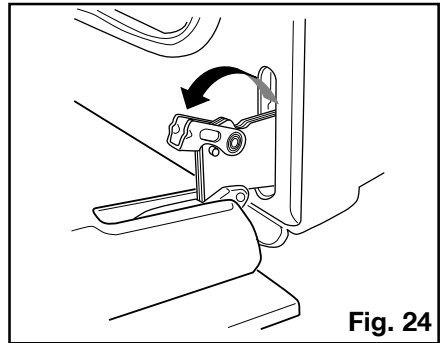

Fig. 24
3. Lift and turn the levers on the two hinges (Fig. 24).